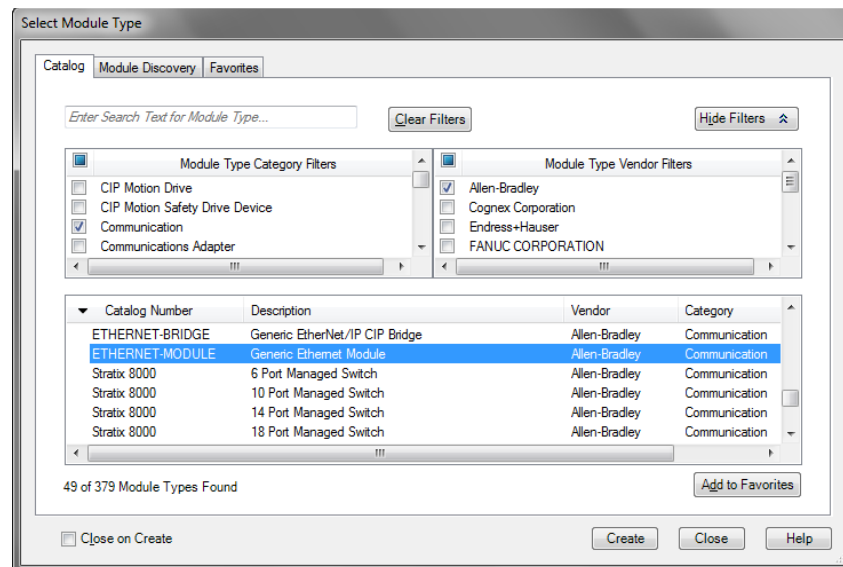

Figure 4.2 Studio 5000 Generic Module Selection
- 2) The resulting window is shown in figure 4.2. Scroll down the list until you find the entry that has a description of "Generic Ethernet Module". (Module Type is ETHERNET-MODULE in the figure.) You can limit the list to Allen-Bradley Communication Modules by setting the appropriate filters. Click on the module name to select and then click the [Create] button. A Module Properties window will open.